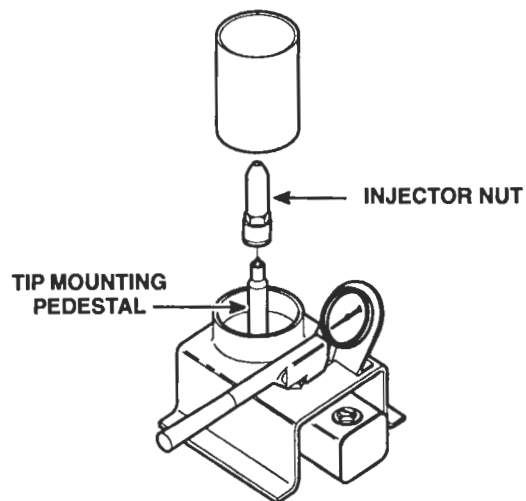

Figure 5. Installing Injector Nut
2. Place the tip assembly, valve spring with cage and check valve cage on top of the pedestal. Tighten the injector nut (Figure 5.)